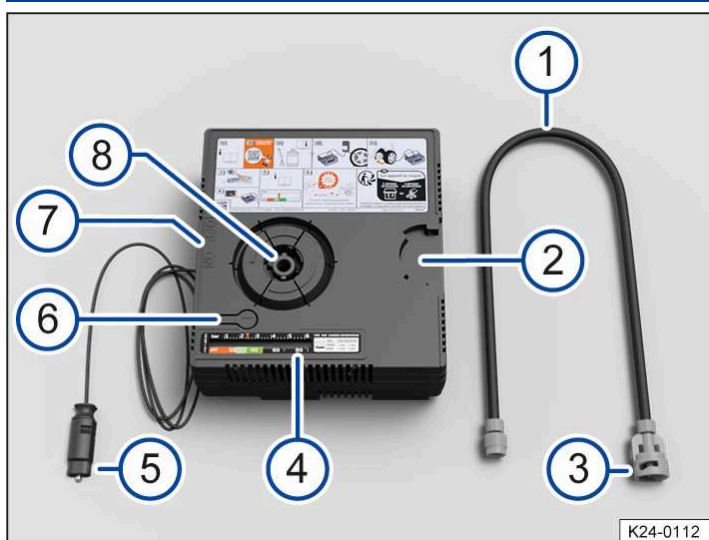
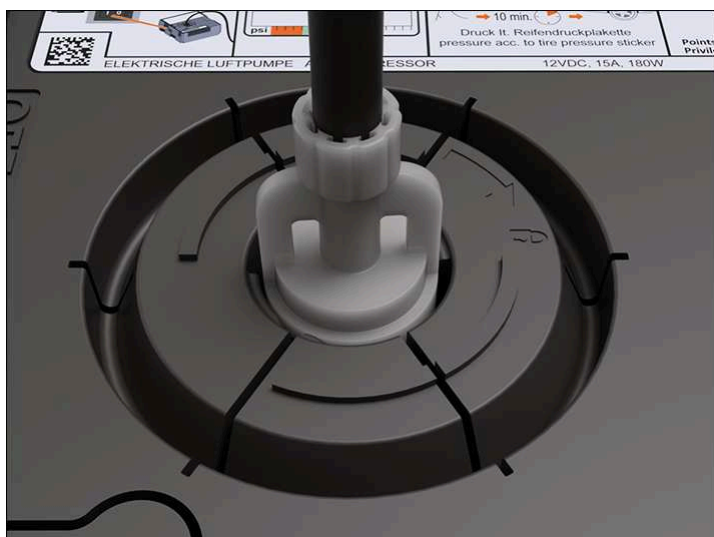

Fig. 5 Compressor in the breakdown set (illustration).
Fig. 6 Connecting the tyre filler hose.
4. Remove the tyre filler hose → Fig. 5 ① from the rear of the compressor.
5. Insert the tyre filler hose → Fig. 5 ① with the wing nut → Fig. 5 ③ into the mount for the tyre filler hose → Fig. 5 ⑧ so that the wing nut is pointing to ☞ → Fig. 6.
6. Turn the wing nut → Fig. 5 ③ in clockwise direction until the wing nut is pointing to ☞ → Fig. 6.
7. Screw the tyre filler hose → Fig. 5 ① of the compressor tightly onto the valve of the tyre filler bottle → Fig. 4 ①.
9. Hold the bottle upside down and press the top of the tyre filler bottle into the notch in the compressor → Fig. 5 ②.
10. Place the compressor → Fig. 5 together with the tyre filler bottle → Fig. 4 on a level surface.
12. Insert the 12-volt plug → Fig. 5 ⑤ into one of the vehicle's 12-volt sockets (→ Sockets).
13. Switch on the compressor with the ON/OFF switch → Fig. 5 ⑦.
2. Reconnect the tyre filler hose → Fig. 2  or → Fig. 5  and read off the tyre pressure on the tyre pressure display → Fig. 2  or → Fig. 5 .